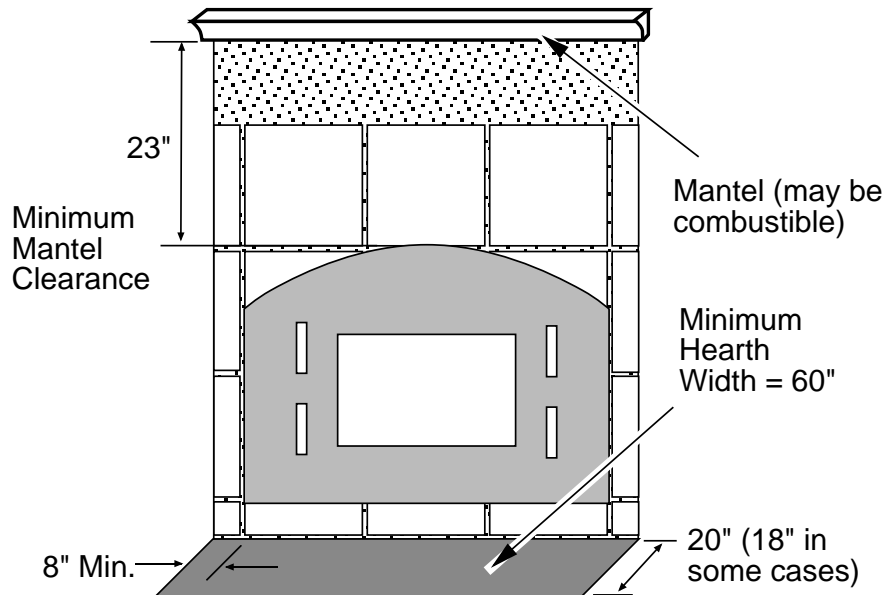

Figure 29
- The optional mantel must be a minimum 23" above the top of the faceplate (61" above the base). See Figure 29.